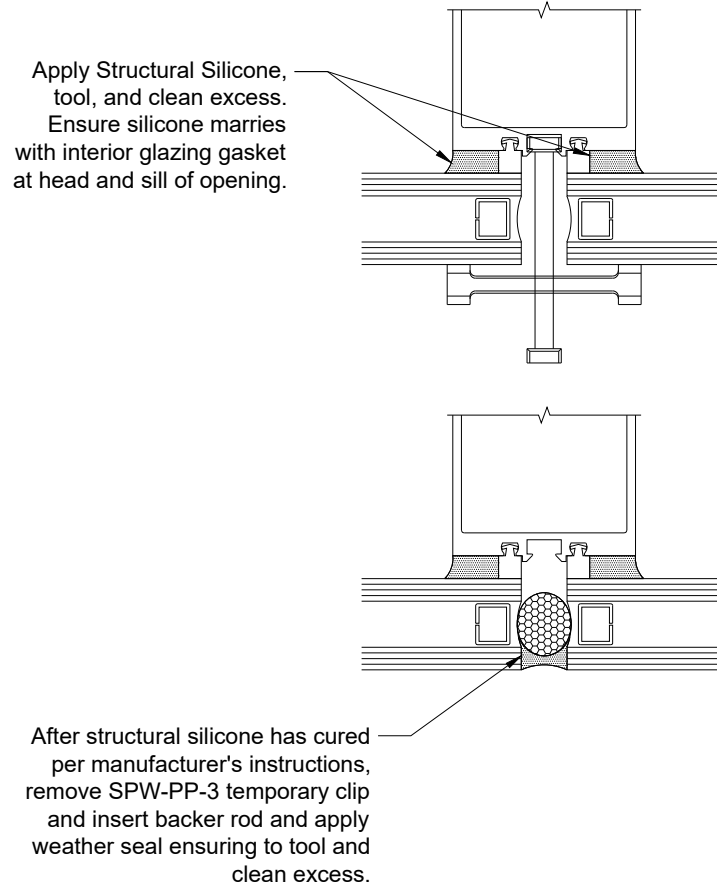

Figure 64: SSG Application and Sealing
22.1 Apply Structural Silicone per manufacturer's directions. Marry the Structural Silicone to the Interior Glazing Gaskets at the head and sill of the opening. Tool and clean excess Silicone from framing and glass. See *Figure 64*.
22.2 After Structural Silicone has fully cured per manufacturer's direction, remove **SPW-PP-3** Temporary Retainers, and insert backer rod between glass lites. Apply weather seal between glass lites full height of glazing. Tool and clean excess Sealant from glass lites. See *Figure 64*.